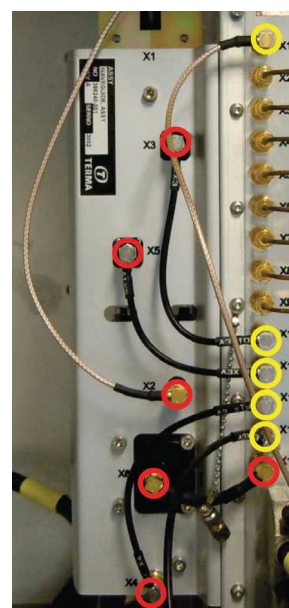

Fig. 7.31 Connectors
All these connections to be removed are shown with red circles on Fig. 7.31 \(p. 137\).
- 8 Loosen SMA connectors on RxTx marked with a yellow circle (X1, X10, X11, X12, and X13) - see Fig. 7.31 \(p. 137\) and turn the cables upwards or downwards so the waveguide assy has free passage when it is taken out. For doing this, the connectors should be loosened just a little bit. Use tools 13/14.